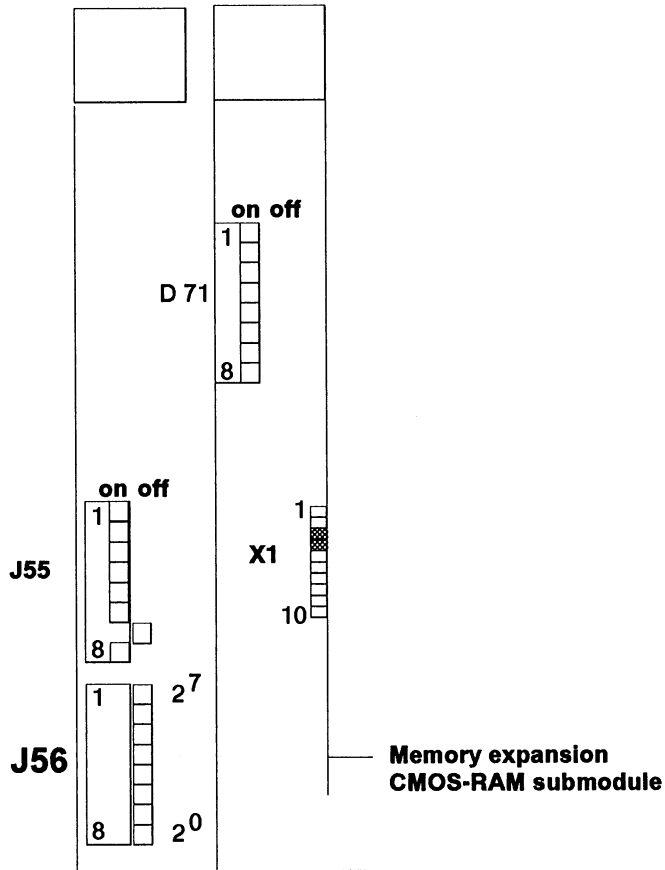

Fig. 6-6 Jumper settings as supplied
**X1** on the memory expansion sets the address area of the CMOS-RAM submodule: 256 Kbytes to 896 Kbytes, when pins 3 and 4 are connected (see Fig. 6-6).